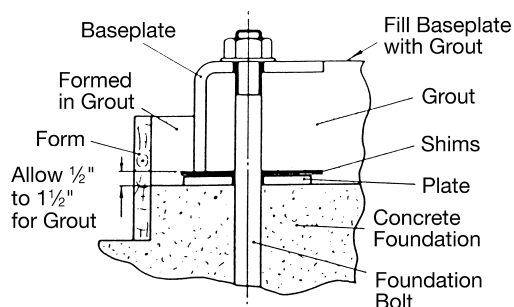

Figure 3
6. Baseplate Setting (see Figure 3)
7. Grouting Procedure (see Figure 3)